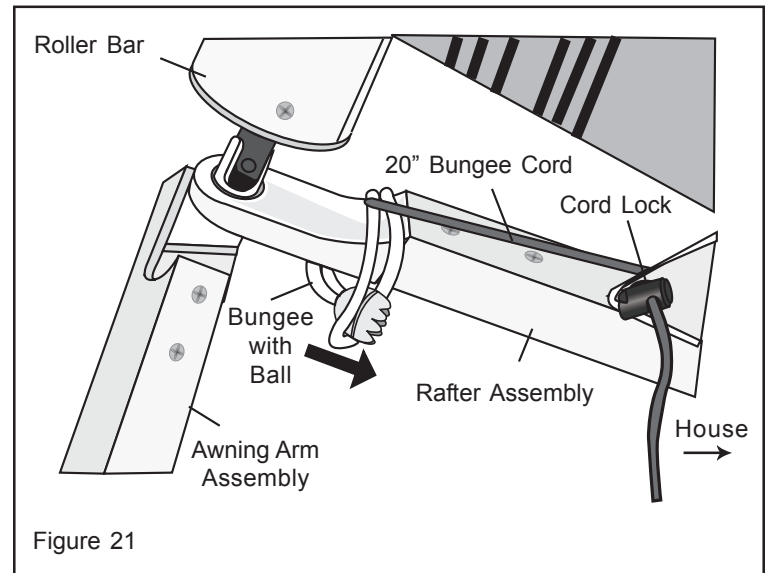

Figure 21
**STEP 30.** At the left front corner, take the small (5 1/4") bungee cord and loop it under and then over the top of the rafter assembly and secure the loop over the ball assembly (See Figure 21). Repeat for bungee at the right front corner of screen room.